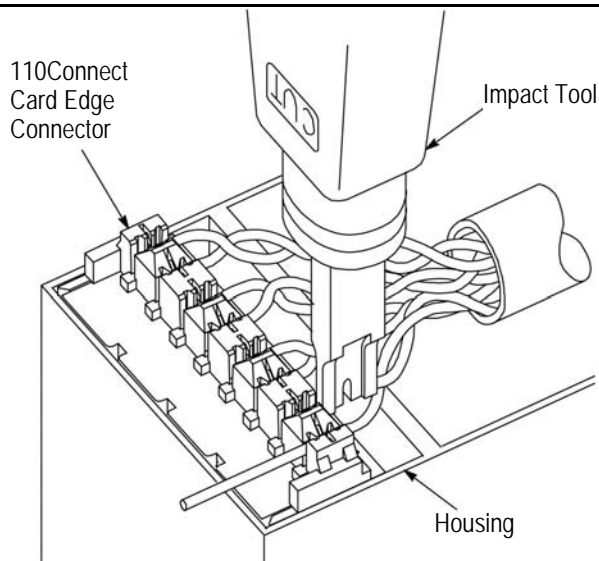

Figure 4
3. Terminate conductors using Impact Tool 569994-1, D814 impact tool, or KRONE single wire tool. See Figure 4.